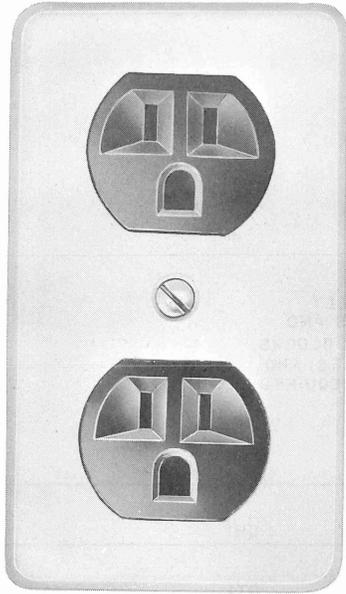

Fig. 4 — Standard 3-Wire Grounding-Type Receptacle
3.03 The customer must furnish a standard 3-wire, grounding-type power receptacle (Fig. 4). This receptacle must be on a circuit that is not controlled by a switch.